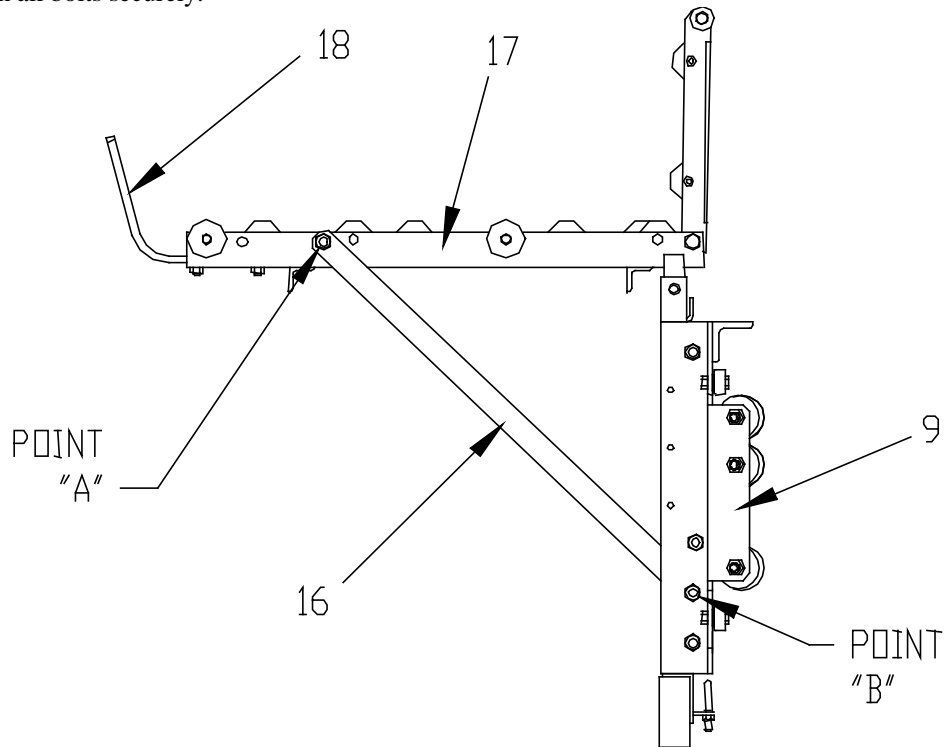

Figure 3-2.
6. Refer to Figure 3-2. Fasten the two support braces #16 onto the platform #17 at point "A" & onto the main frame #9 at point "B" with the 1/2 X 1" bolts and nuts. Platform stops #18 can be bolted to the end of the Platform #17 if required. Tighten all bolts securely.